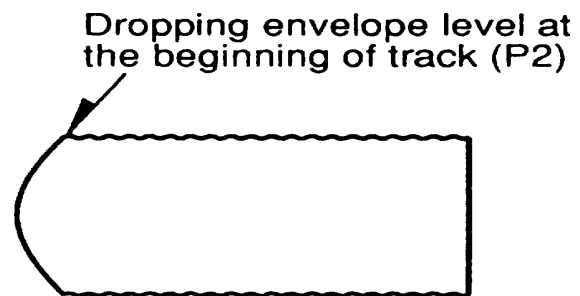

Fig. 15 - Envelope Output Adjustment
**Note:** • If the waveform exhibits dropout at the beginning of the track (Fig. 15), adjust the height of the P2 post. To adjust post height, loosen the black locking screw (using the lock screw wrench) at the base of each post, then turn each post with the post adjustment screwdriver. Upon completion of adjustment, tighten the black locking screws using the lock screw wrench.